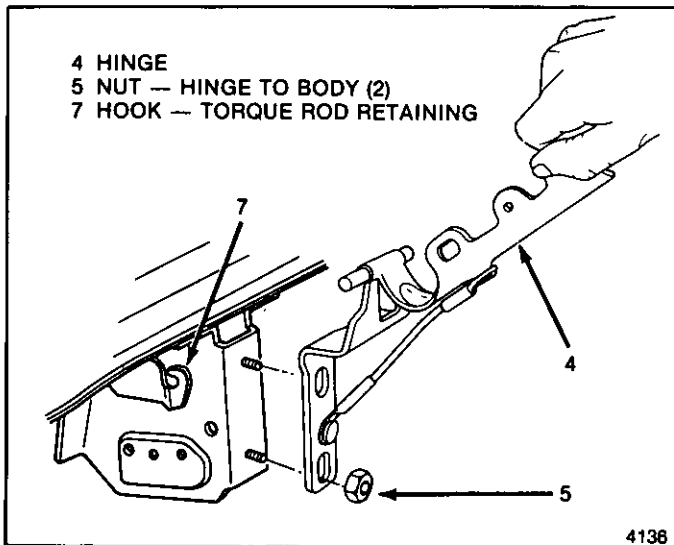
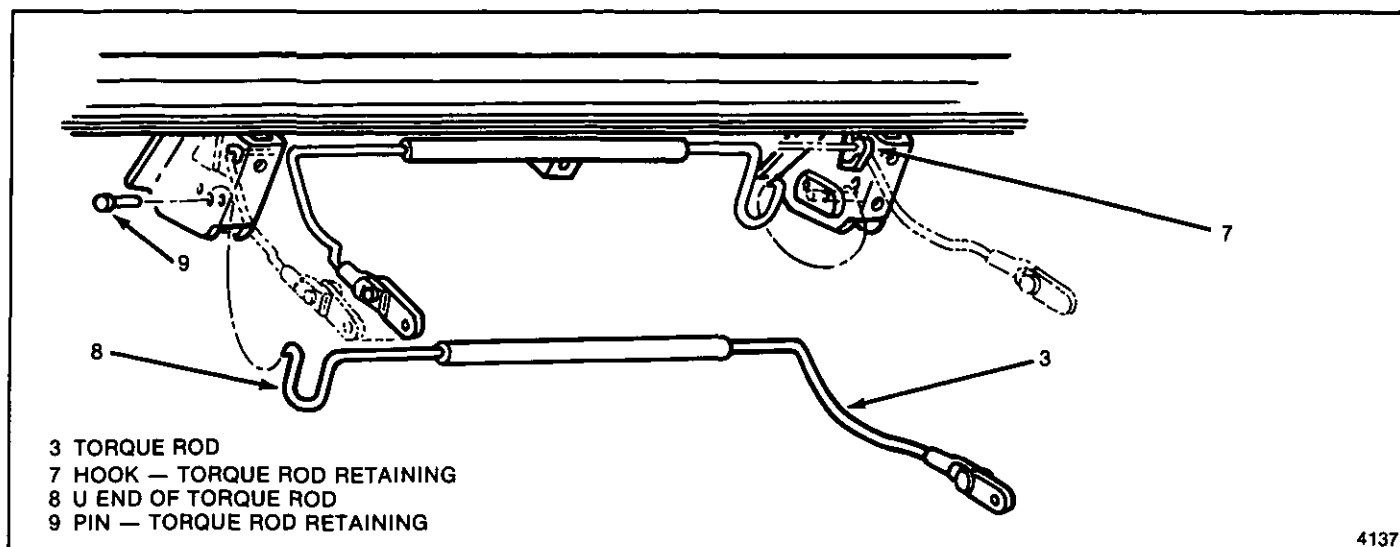

Fig. 2-Rear Compartment Lid Hinge
Fig. 3-Rear Compartment Lid Torque Rod
Remove or Disconnect (Figure 2)
Install or Connect (Figure 2)
**←→ Remove or Disconnect (Figures 3, and 6)**
1. Hinge (4, Fig. 2)
2. Screw (13)
3. Pin (9) — with end of torque rod resting against plywood, grasp U end of rod (8) and pull rearward to release pin.
**↔ Install or Connect (Figures 3 and 6)**
1. Rod (3)
2. Rod (3) in hook (7)
3. Pin (9)
- With torque rod resting against plywood, grasp U end of rod (8) and pull rearward to insert pin.
- Release U end (8) of rod and be sure that end of rod hooks over pin.
4. Screw (13)
5. Hinge (4, Fig. 2)